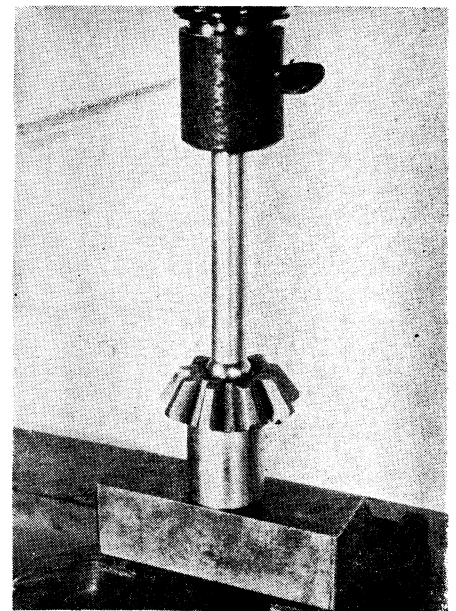
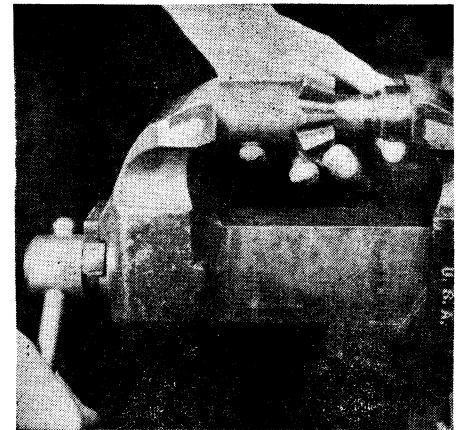

Fig. 102 Using a bar to press burnishing ball through bushing
Fig. 103 Using short bar and vise to install bushing in differential pinion
4. Use bar to press burnishing ball through bushing, Fig. 102. If desirable, the bar may be shortened to permit the use of a bench vise to install and burnish bushing, Fig. 103.